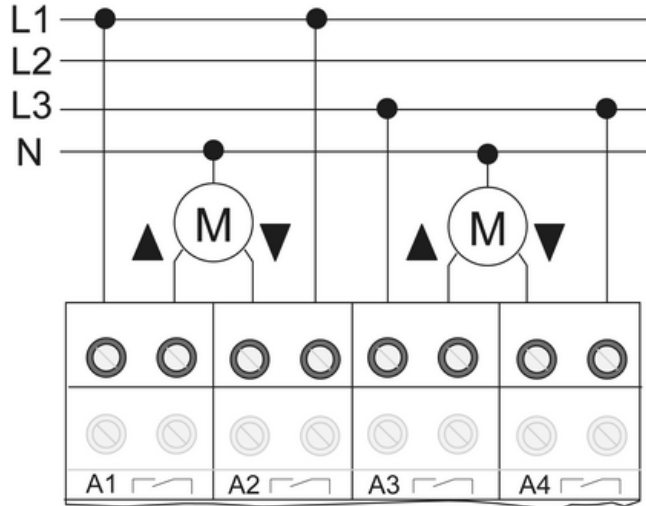

Figure 5: Connection example of Venetian blind motors
- Connecting Venetian blind motors (Figure 5).